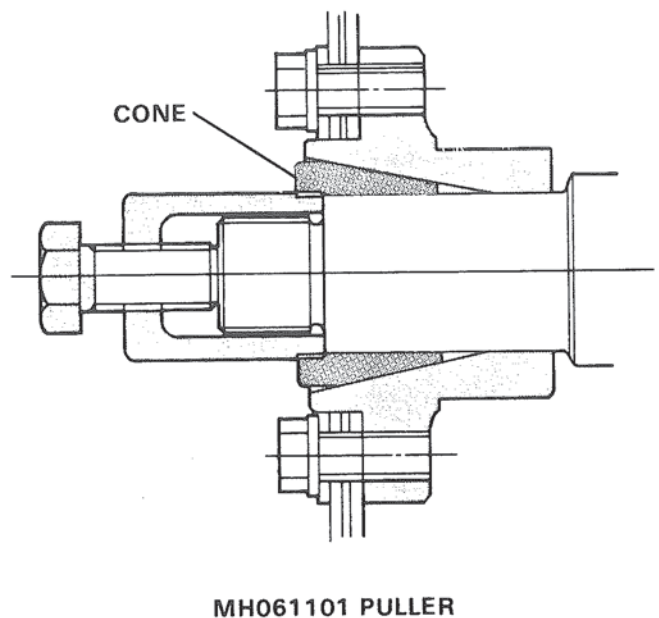

Figure 9. Remove Crankshaft Pulley Cone.
A. Thread crankshaft pulley puller Special Tool No. MH061101 into pulley cone. Figure 9.